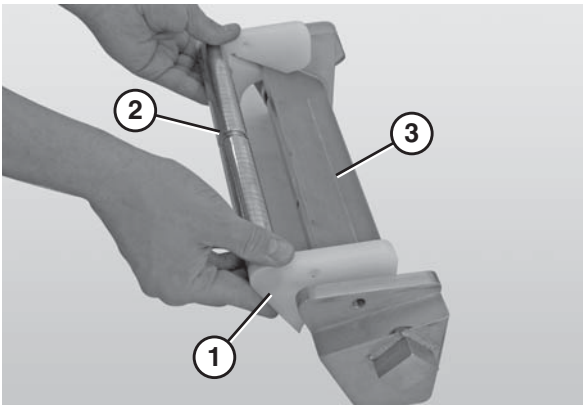

Figure 73
5. Slide the nose bar puck holders (Figure 73, item 1) and the nose bar spindle (Figure 73, item 2) off of the nose bar weldment (Figure 73, item 3).